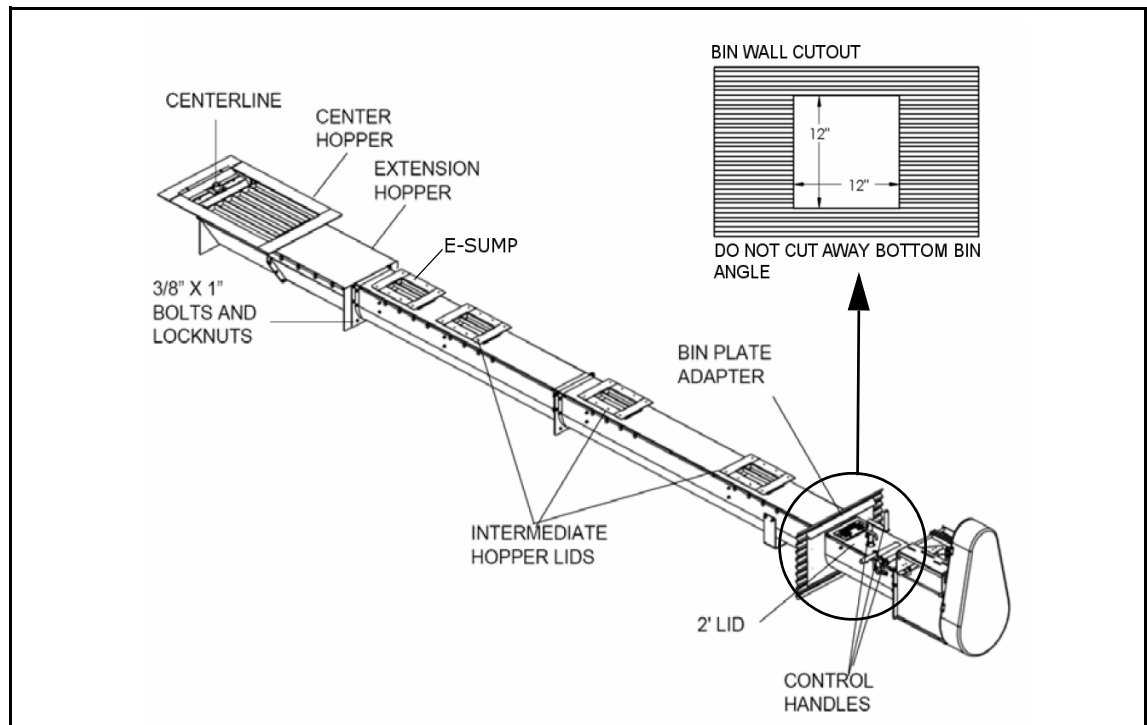

Figure 4.4
- The hole should measure approximately 12" wide x 12" high (**Figure 4.4**). When measuring the hole, measure 12" down from the bottom of the aeration floor. Try not to cut the bottom bin angle.
10. Now you can finish installing the aeration floor (**Figure 4.4**).